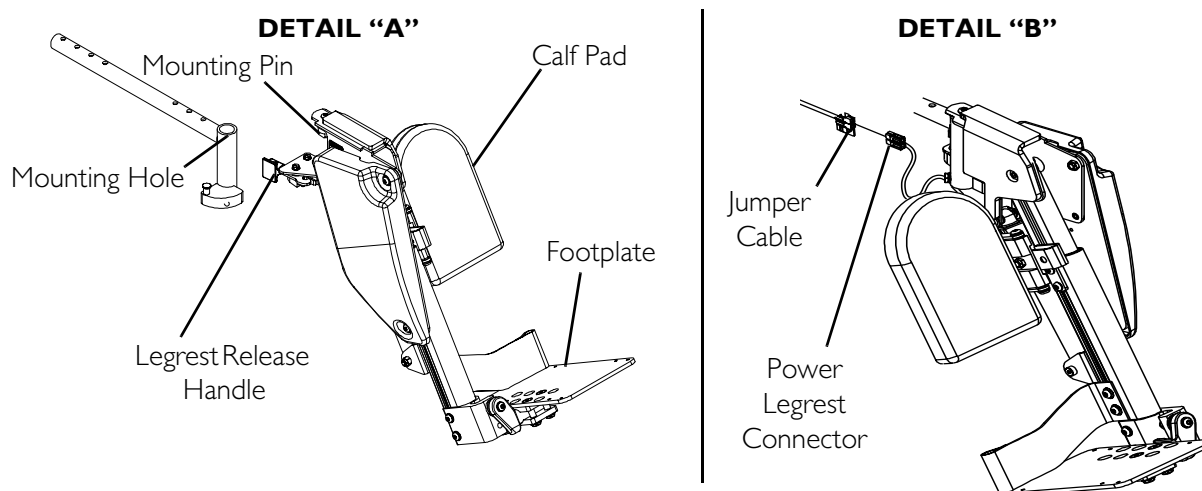

FIGURE 6.23 Installing/Removing the Power Elevating Legrests
NOTE: For this procedure, refer to FIGURE 6.23 on page 84.
1. Turn power legrest to side (open footplate is perpendicular to wheelchair) (Detail “A” of FIGURE 6.23).
2. Insert the mounting pin of power legrest into the mounting hole of the seat frame (Detail “A” of FIGURE 6.23).
5. Connect power legrest connector to jumper cable (Detail “B” of FIGURE 6.23).